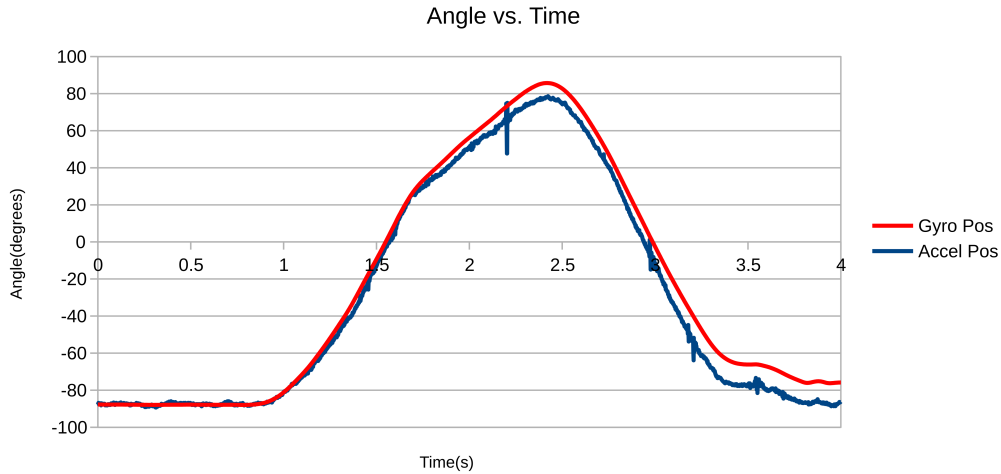
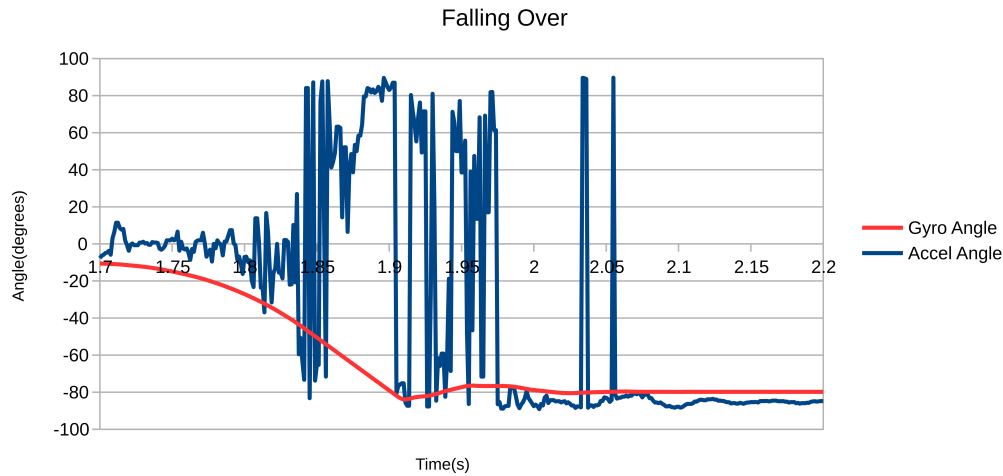

Figure 2: Comparison of angles from the robot being slowly rotated.
Figure 3: Comparison of angles when robot falls over.
We knew we needed an accelerometer and a gyrometer because examples of this type of balancing robot we found online all used these two sensors(1). After we recieved our sensors thought we thought we could get by using only the gyroscope and monitoring our output to the motors, but the drift of the gyroscope made it too inaccurate to use on its own. Then we tried using an accelerometer and a gyrometer because combined their data with a simple filter as described in another online tutorial(2) gave us a quick and accurate tilt angle of the robot. If just a gyrometer were used, the angle would drift over time.(Figure 2) If only an accelerometer was used, the angle would be very inaccurate whenever the robot was moving.(Figure 3) We chose to go with the board from Adafruit because the accelerometer and gyrometer came on a single board, were on the same data line for I2C, and the gyrometer had 16 bits of precision.